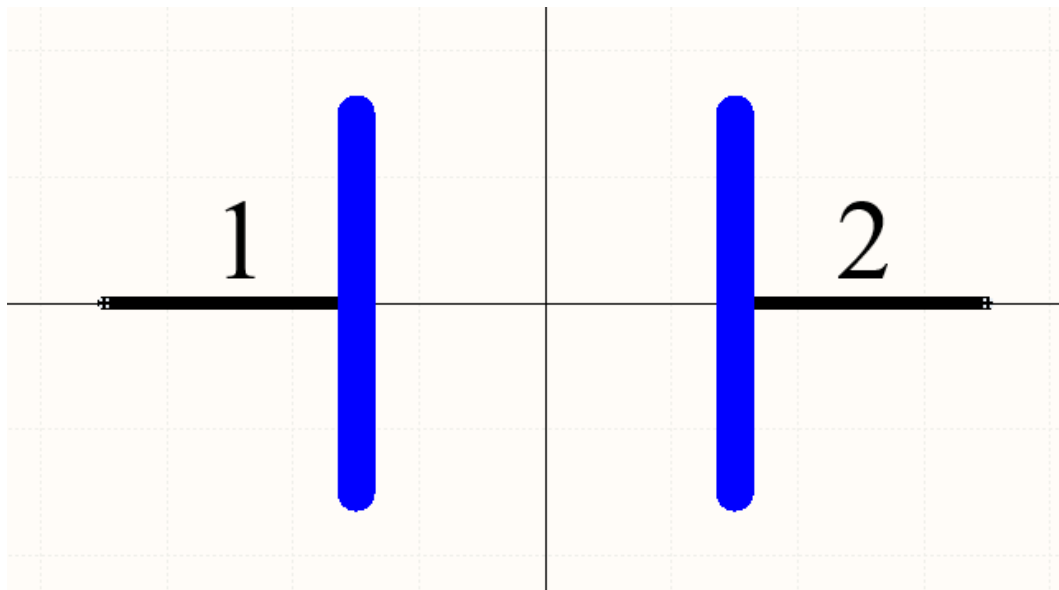

Figure 18. Add Lines to Crystal Symbol
24. Draw the 2 lines similar to what is shown in Figure 18.